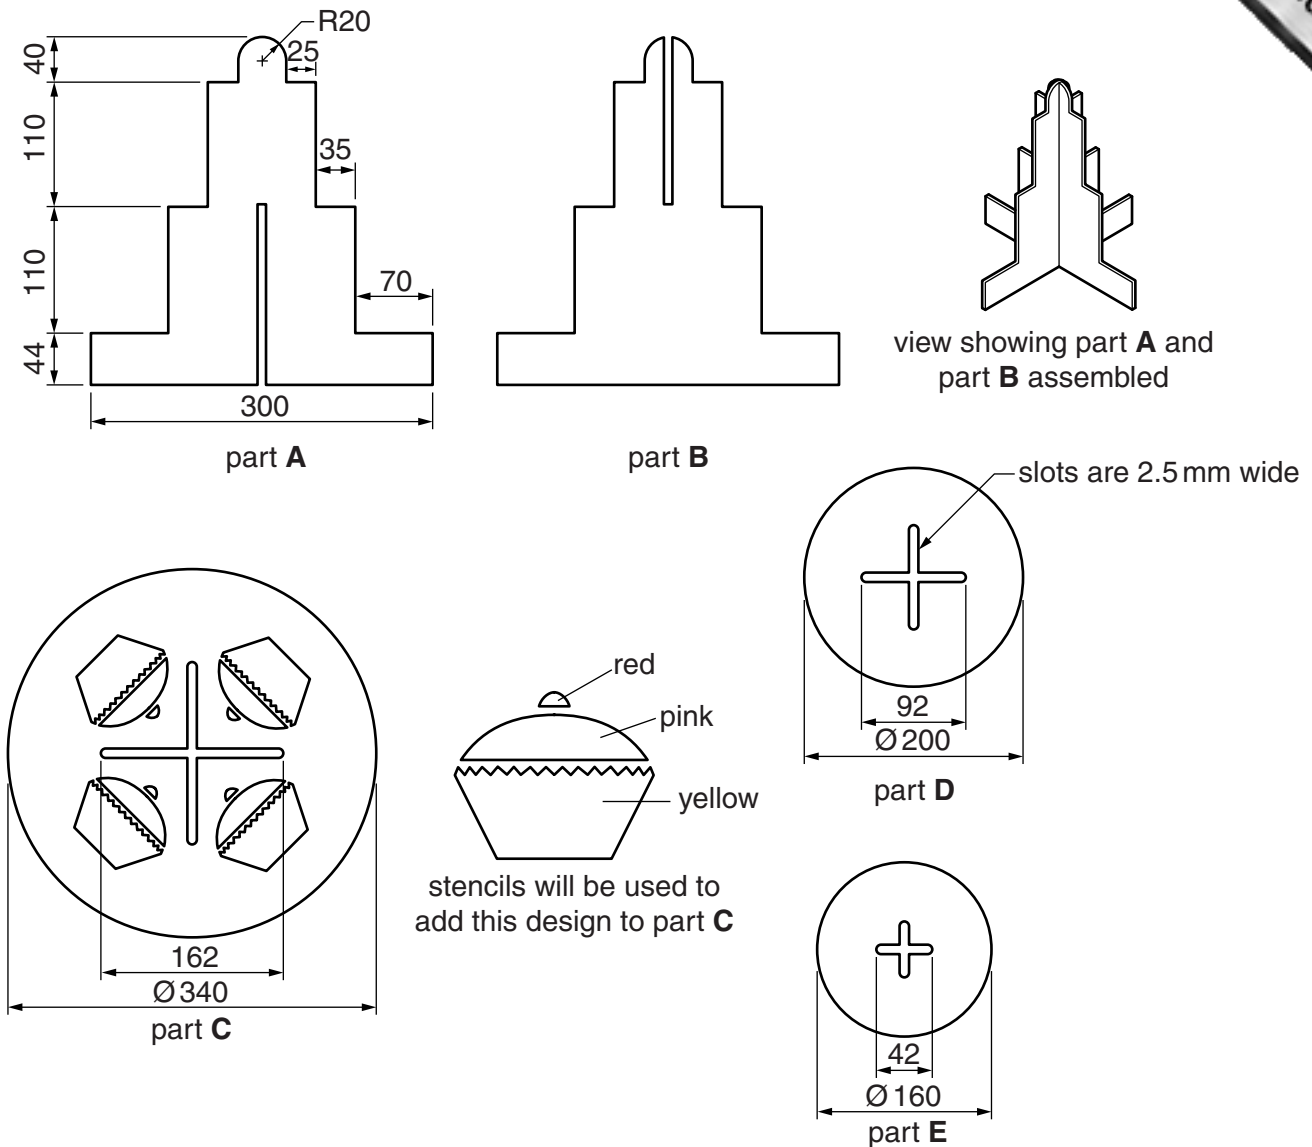

Fig. 2
- 2 Fig. 2 gives details about a cake stand, made from card, which is to be produced in a workshop. The card will be 2000 microns (2 mm) thick.